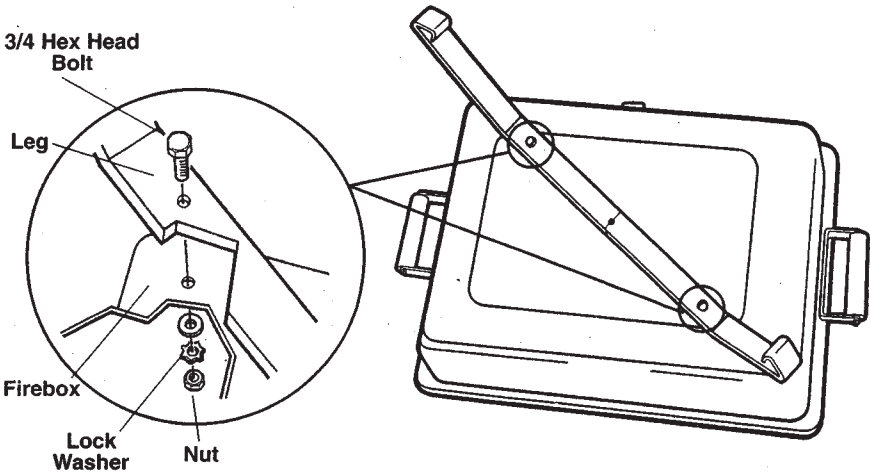

Figure 2
3. Assemble flat legs to firebox with two 3/4" hex head bolts, steel washers, lock washers and nuts in proper sequence shown in **Figure 2**.